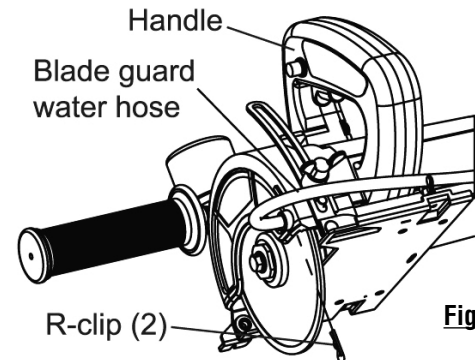

Figure 3
2. Insert the hose (2) to the the ports on the guard. Re-insert the r-clip into each hose (see fig. 3).